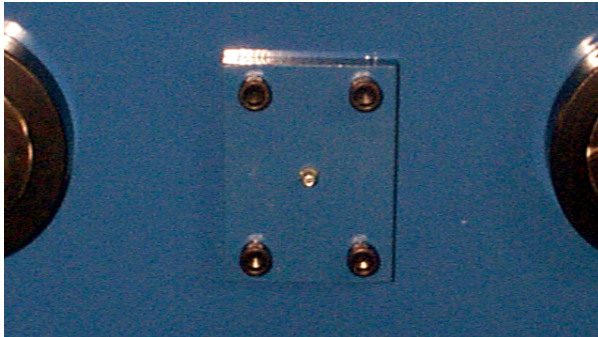

**FIGURE 4**
6. Remove the (4) bolts which mount the lead screw nut block to the extractor arm base plate. The extractor arm stop may be removed to make the area more accessible. See Figures 4 & 5.
23. Apply a generous amount of grease to the nut block via the grease fitting. Slide the extractor arm assembly until it is lined up over the nut block on the lead screw. Reattach the nut block using the new nut block hardware supplied. See Figures 4 & 5.